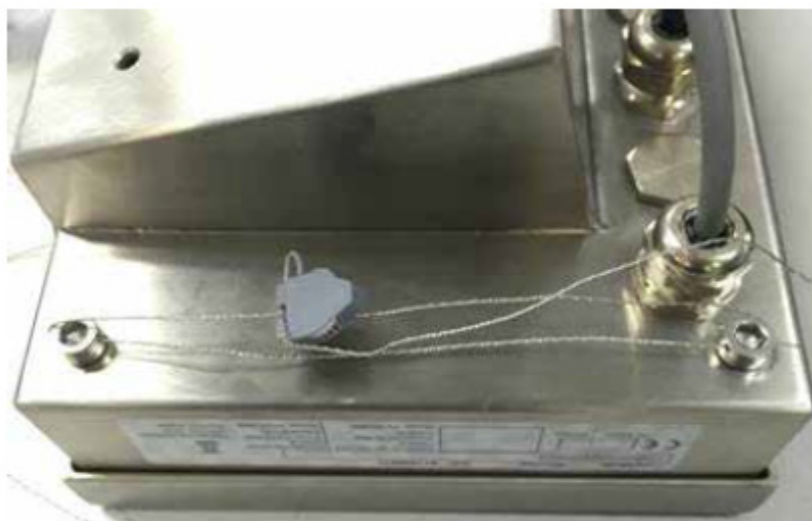

Figure 2-15: Sealing Method
IND256x lead seal details are shown in Figure 2-15. The procedure is as follows:
2. Pass the seal wire through two adjacent sealing bolts and then fix the seal retainer as shown in Figure 2-15.